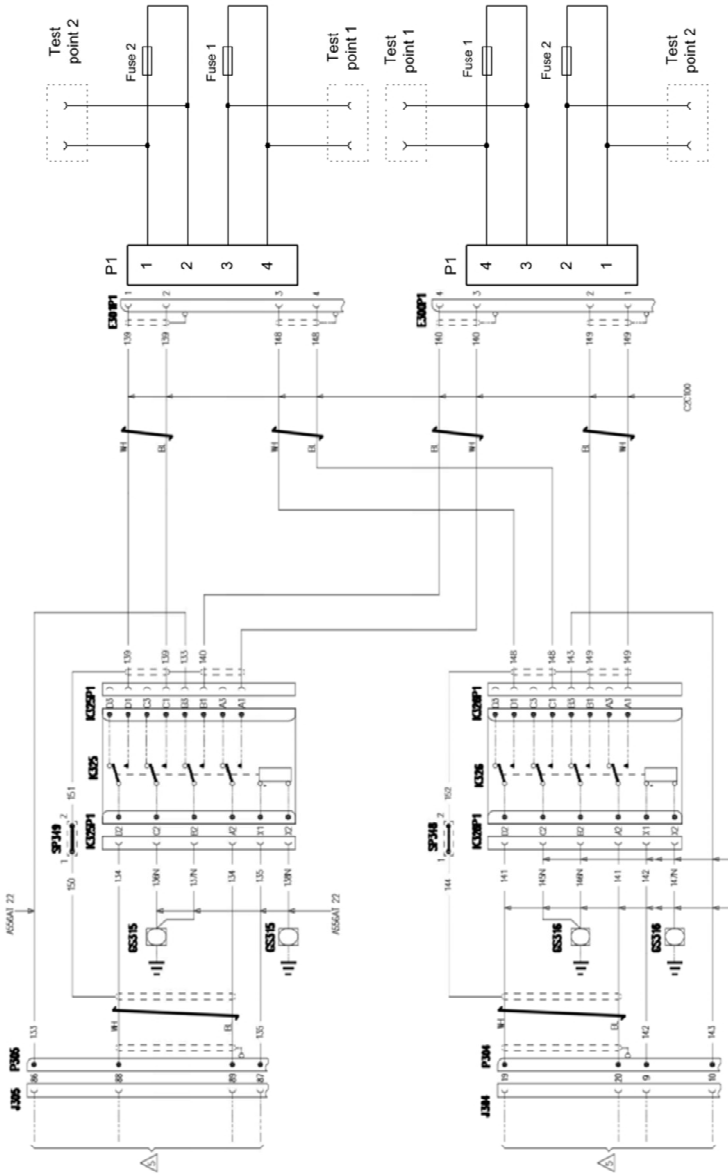

Figure 5: Flotation Wiring in Test Condition with Test Cables Implementation
- 7 Connect the first **Test Shunt Connector** (safety shunt - **figure 5 and 8**) to the Gas Cylinder Bottle #1 (E301)
- 8 Connect the second **Test Shunt Connector** (safety shunt – **figure 5 and 8**) to the Gas Cylinder Bottle #2 (E300)